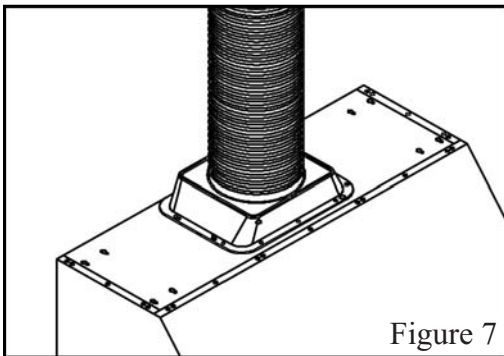

Figure 7
3. Use 8" round steel pipe (follow building codes in your area) to connect the exhaust on the hood to the duct-work above. Use silver tape or duct tape to make all joints secure and air tight. Refer to Figure 7.